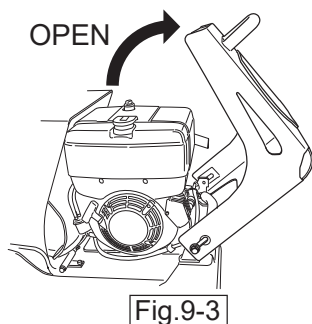

Fig.9-3
- 3 Open the front cover slowly.(Fig.9-3)